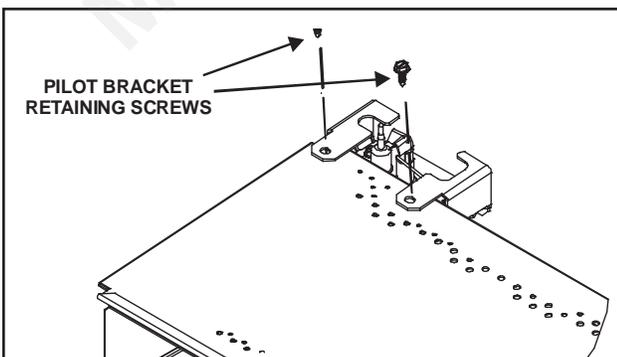

Figure 3.3
- Unscrew the brackets at both ends of the burner and the top two screws locating the pilot bracket (see Figure 3.3). Slide the burner away from the burner orifice.